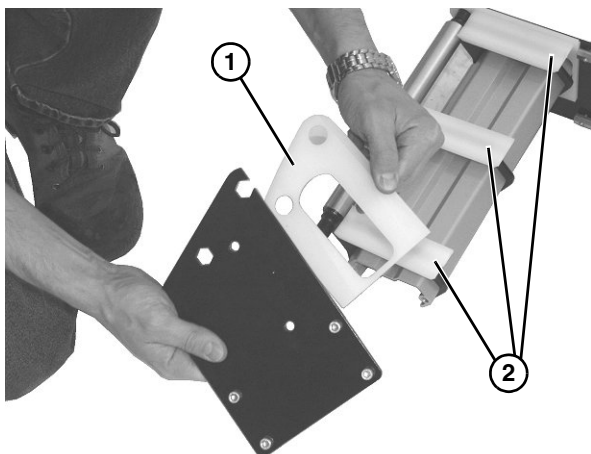

Figure 45
- Check idler terminal assembly on each side (**Figure 45, item 1**) for wear. If worn, replace.
- Remove and replace wear guides (**Figure 45, item 2**) if worn. When replacing, secure onto pins on each support plate.